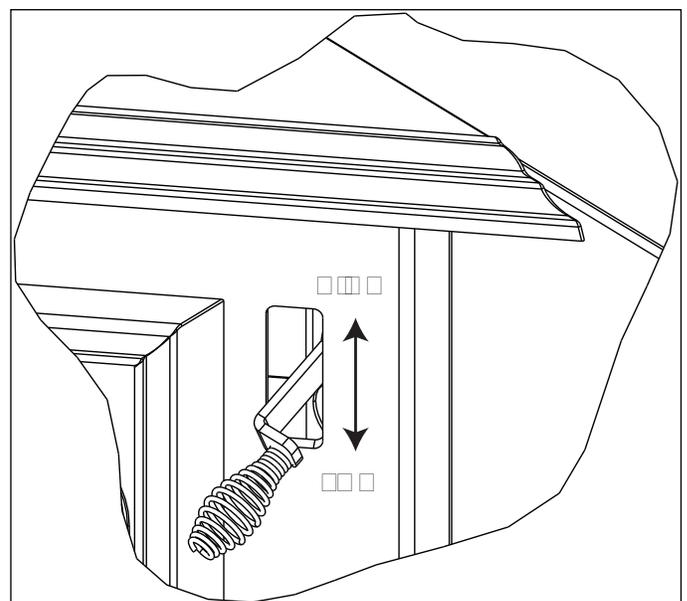

Figure 11.1
- When the control is raised all the way up it is on the High setting and when pushed all the way down it is on the Low setting. **Figure 11.1.**
2. Follow these burn rate instructions below and refer to **Figure 11.1**